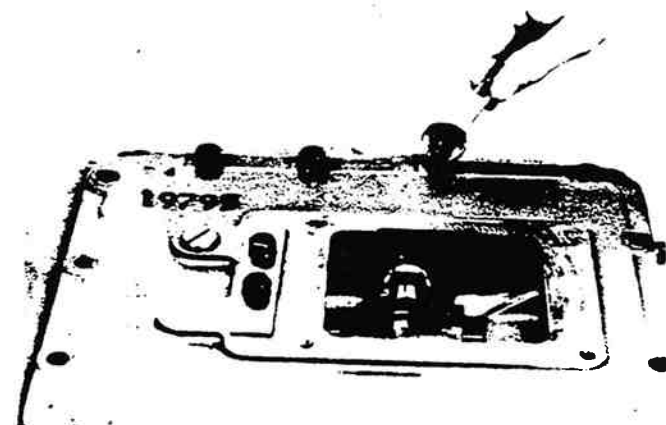
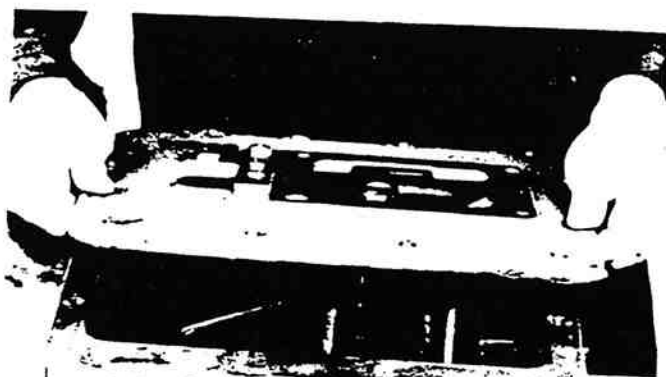

Figure 13-7. Removing Capscrews.
Figure 13-8. Removing Shift Bar Housing.
1. Turn out the attaching capscrews (figure 13-7). Jar to break the gasket seal and lift the shift bar housing from the transmission (figure 13-8).